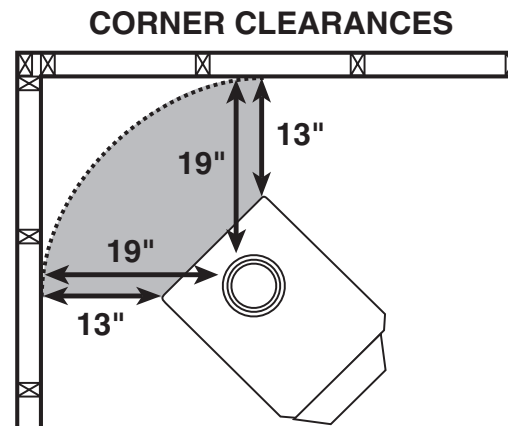

Fig. 6 – Minimum Corner Clearance Dimension from Combustible Surfaces
2. Remove parts from inside stove. Parts include: Blower Assembly (#F-6), Legs (#5) and Hardware Pack (#08-HP) located inside firebox. NOTE: Stove body is HEAVY. Make sure you have adequate help to lift stove body and use proper lifting techniques. Stove may be lightened during installation by removing fire brick. Replace firebrick before using. There are five different sizes of brick. Note the location of each while removing or refer to figure 6 for proper location inside firebox.